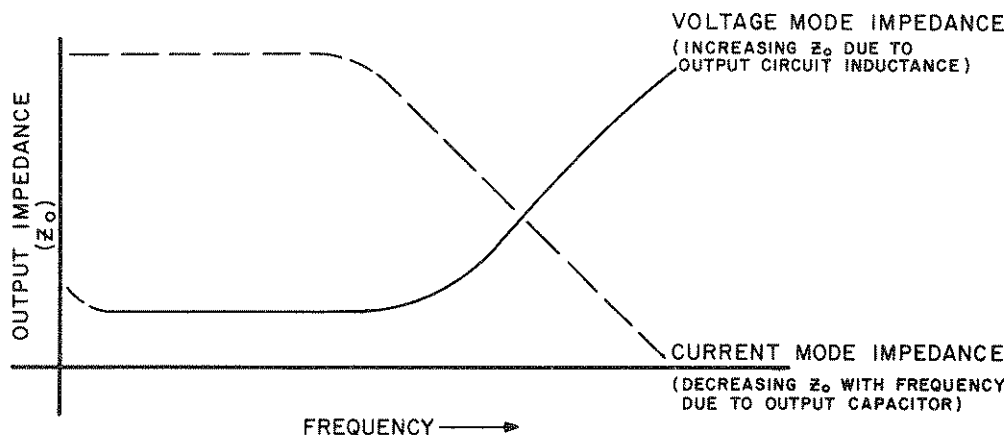

FIG. 3-1 TYPICAL OUTPUT IMPEDANCE VS. FREQUENCY PLOT FOR STABILIZED D-C SOURCES.
- 3-15 **LOAD WIRE SELECTION.** The stabilized d-c power supply is definitely not an ideal voltage or current source with zero output impedance (VOLTAGE MODE) or infinite output impedance (CURRENT MODE) at all frequencies: All **voltage** sources have some amount of impedance which *increases* with frequency and all **current** sources have an output impedance which *decreases* with frequency (refer to FIG. 3-1).